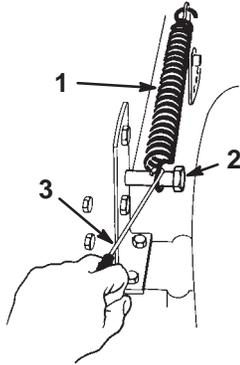

Figure 37
- Remove the height-of-cut lift assist spring from the retaining bolt (Fig. 37), using the spring tool provided with the tractor. The spring is between the frame and the right rear wheel.
18. Move the height-of-cut lever into the D notch. Hook the lift assist spring onto the retaining bolt for storage (Fig. 37).